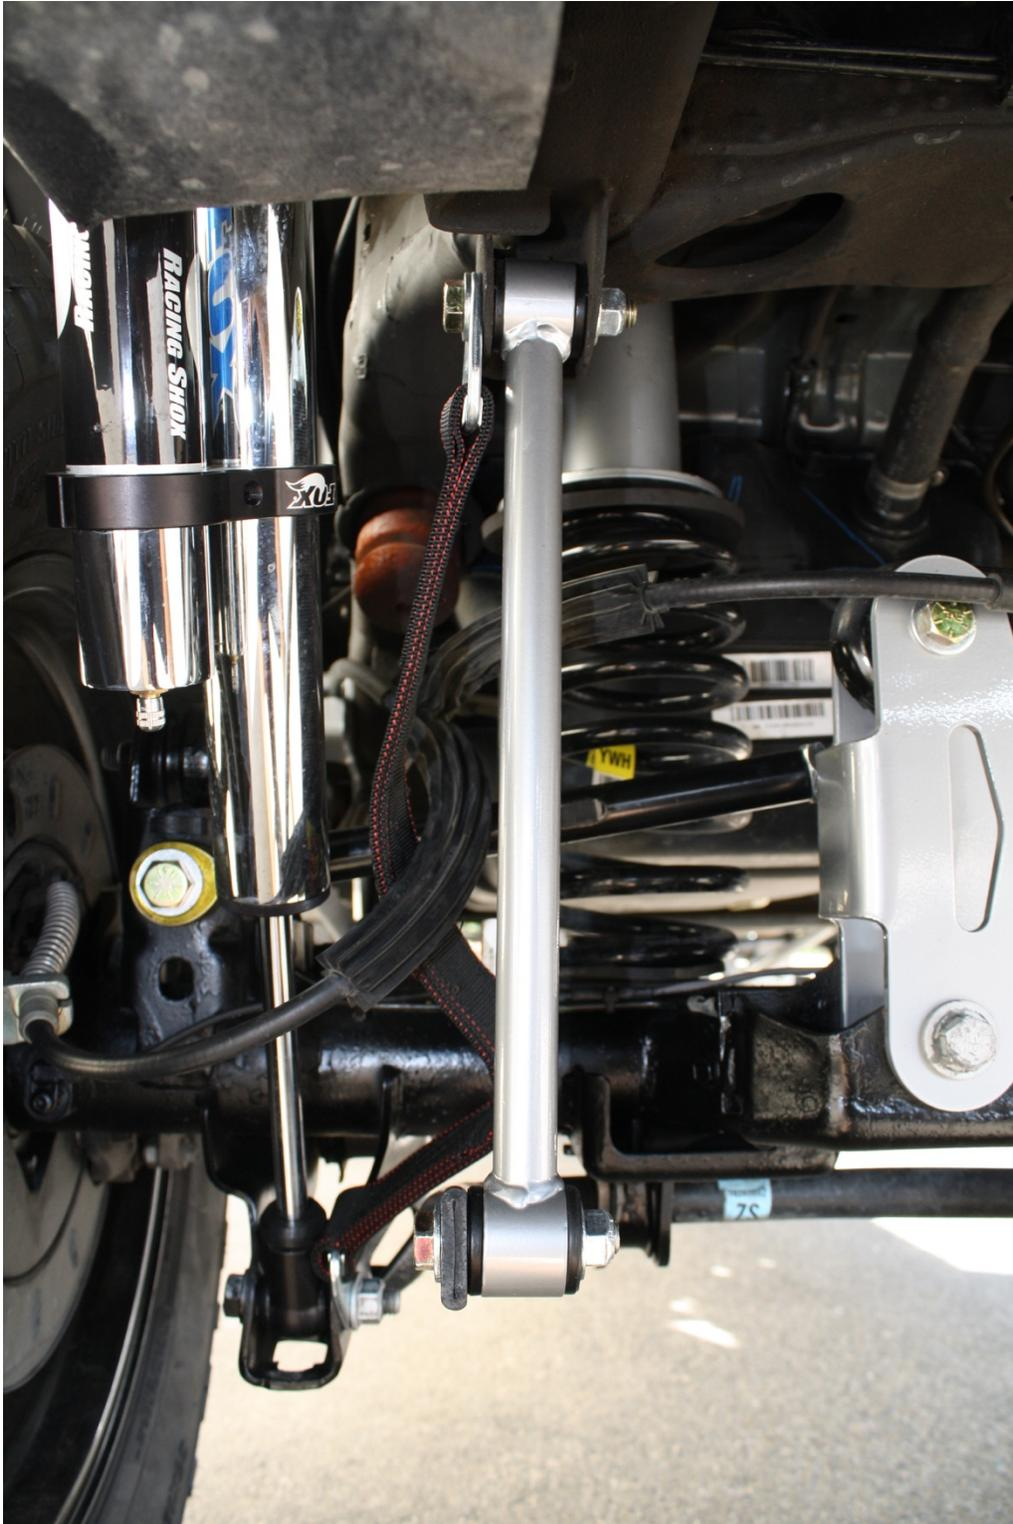

Figure 2: Limit strap mounting, and track bar support
- 10) Bolt the track bar re-locate bracket to the factory location on the rear end housing using the stock hardware previously removed. Assemble the track bar support with the hardware in package #9043. Bolt one end of the adjuster support to the top hole of the upper control arm tower bracket that is welded on to the rear end housing, use the 5/8"x2" bolt, two flat washers, and a lock nut, see Figure 2. The other end bolts to the Cognito track bar relocate bracket. Use the 5/8"x2.5" bolt, two flat washers, lock nut, and cone washer. The cone
- 11) Assemble the sway bar end links with the hardware in package #9051. Use the hardware provided to bolt the Cognito end links to the factory sway bar, and the other end in the factory location. One end of the limit strap will bolt in to the top sway bar end link hole, see Figure 2. Tighten all hardware at this time.
- 17) Install new rear shocks. The other end of the limit strap will bolt in along with the lower shock mount bolt, see Figure 2.